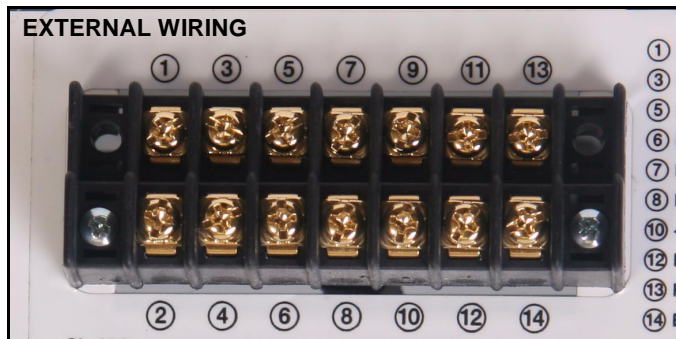

Figure 15
**NOTE:** Refer to Table 1: Wiring Table and (See Figure 15) for information on all wiring options.
**NOTE:** The numbers listed in the **SL151i Internal** and **SL151i External** columns refer to the corresponding numbers located where indicated in the wiring pictures. (See Figure 15)